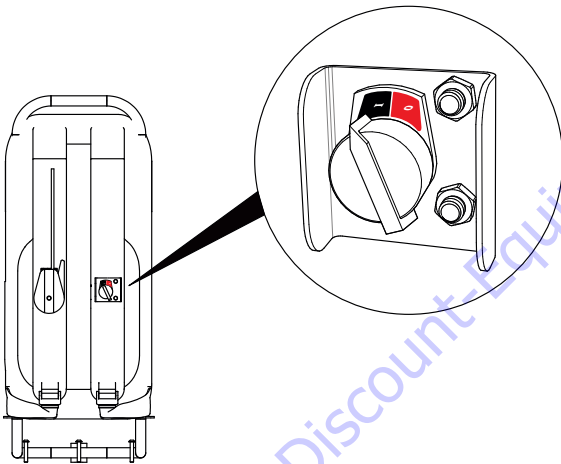

Figure 12. Engine ON/OFF Switch (ON)
5. Place the ON/OFF switch located on the left strap to the **ON** position (Figure 12).